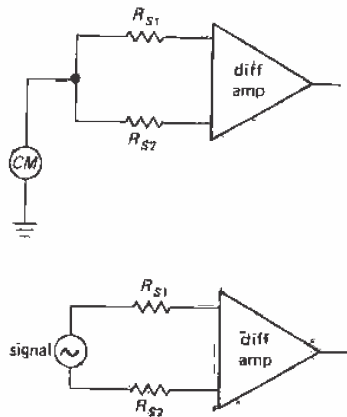

Figure 7.29
0.25 ohm! Furthermore, the source impedance seen at the two terminals has to be matched to 0.0025 ohm in order to attain a CMRR of 100dB. This last result follows from a look at the equivalent circuit (Fig. 7.29). The triangles represent the whole differential amplifier circuit or, in general, any differential or instrumentation amplifier, and R_{S1} and R_{S2} represent the Thevenin source resistances in each leg. For common-mode signals, the overall amplifier circuit includes the two source impedances in series with the input resistors R_1 and R_3 , and so the CMRR now depends on the matching of $R_{S1} + R_1$ with $R_{S2} + R_3$. Obviously the demands this circuit makes on the source impedances as calculated earlier are unreasonable.